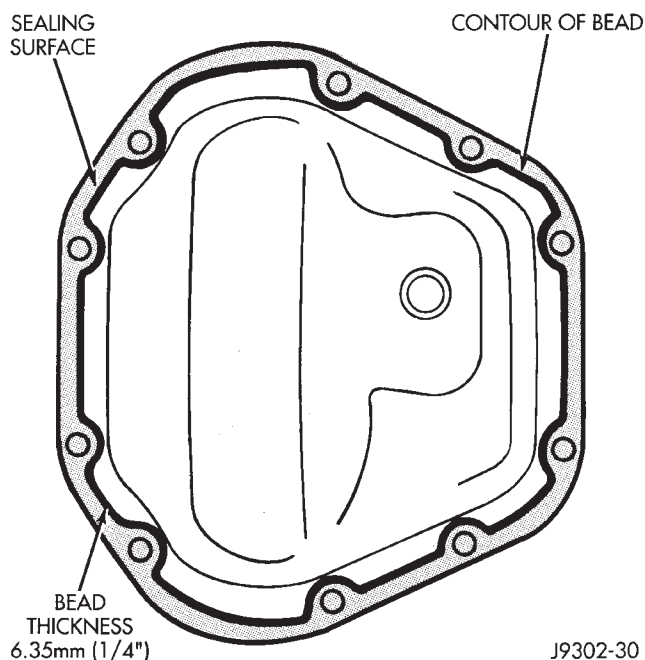

Fig. 39 Typical Housing Cover With Sealant
(1) Install the axle shafts. Refer to Axle Shaft Installation within this group.
(2) Scrape the residual sealant from the housing and cover mating surfaces. Clean the mating surfaces with mineral spirits. Apply a bead of Mopar Silicone Rubber Sealant on the housing cover (Fig. 39). Allow the sealant to cure for a few minutes.